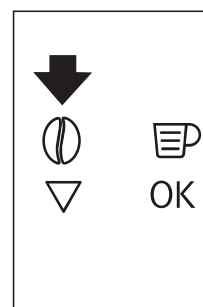

Fig. 15
- Press the  icon (B4) (Fig. 15) and select the pre-ground coffee function.